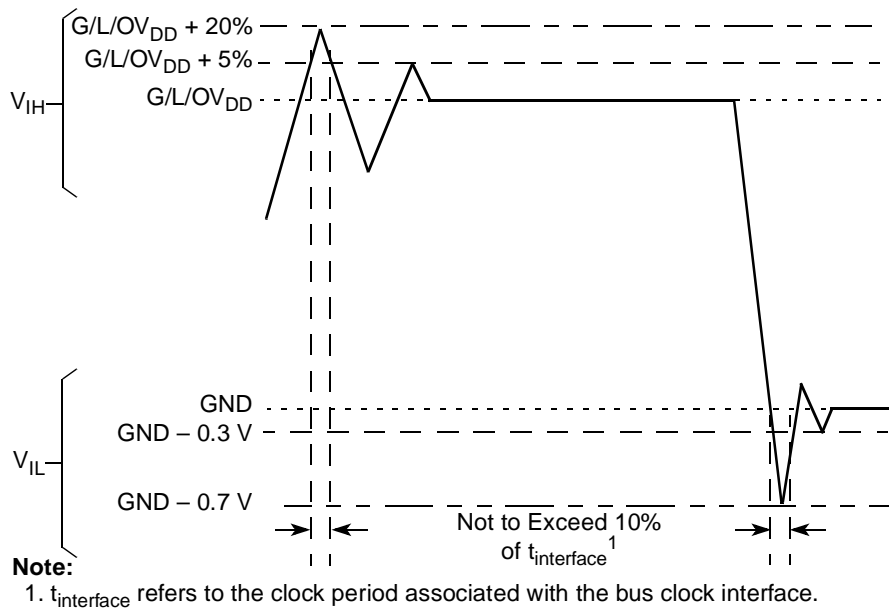

Figure 2. Overshoot/Undershoot Voltage for $GV_{DD}/OV_{DD}/LV_{DD}$
- ⁵ (M,L,O) V_{IN} and MV_{REF} may overshoot/undershoot to a voltage and for a maximum duration as shown in Figure 2.
Figure 2 shows the overshoot and undershoot voltages at the interfaces of the MPC8343E.